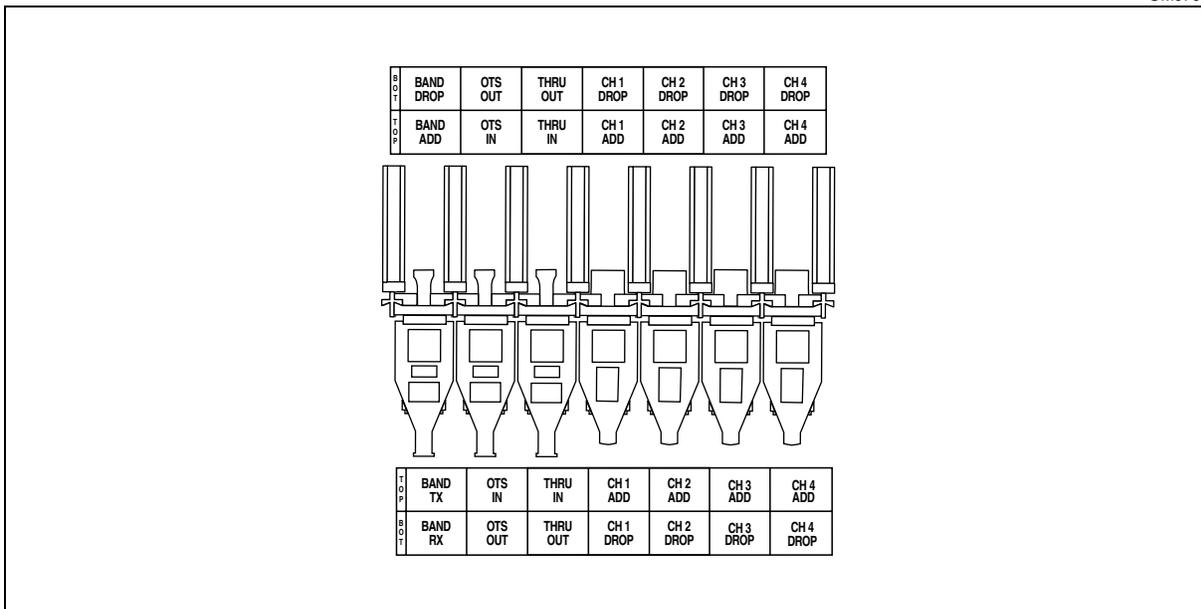

Figure 3-115
- Figure 3-115 on page 3-214
8	Locate the connector on the OMX module needed to make the necessary connection. In this case (CH1) drop port. Lift the pull-up tab on the top of the bulkhead to access the connector. See: <ul style="list-style-type: none"> • Figure 3-114 on page 3-214 • Figure 3-115 on page 3-214